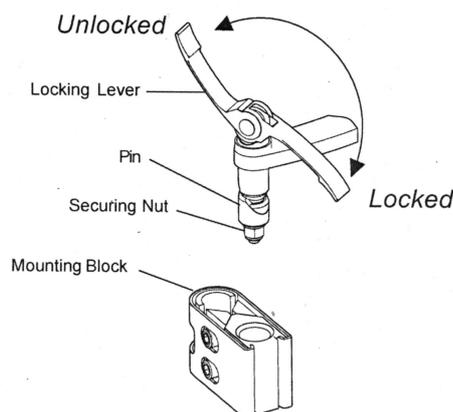

Fig. 3
1. Ensure both locking levers are in the *unlocked* position (Fig. 3).
1. To remove the back cushion, raise the locking levers at the end of each arm to the *unlocked* position (Fig. 3)